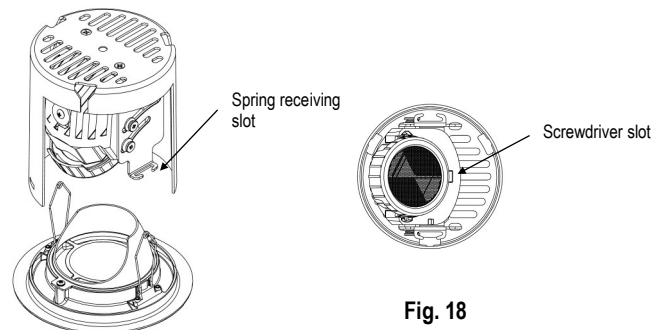

Fig. 18
A. To adjust aiming angle use a standard flat-blade screwdriver or your hand, rotate and/or tilt the adjustment mechanism until the desired aiming position is achieved (Fig 18).